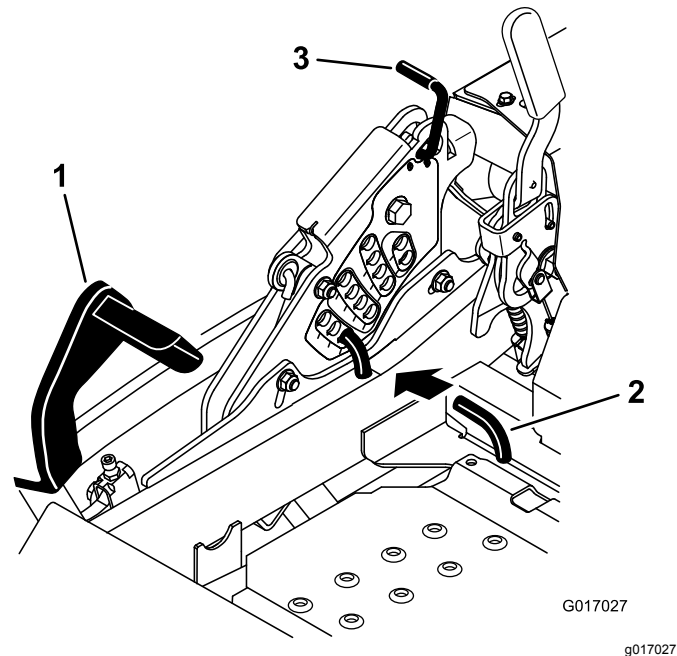

Figure 84
5. Push the deck-lift pedal all the way forward so the deck latches at the 14 cm (5-1/2 inch) transport position (Figure 84).